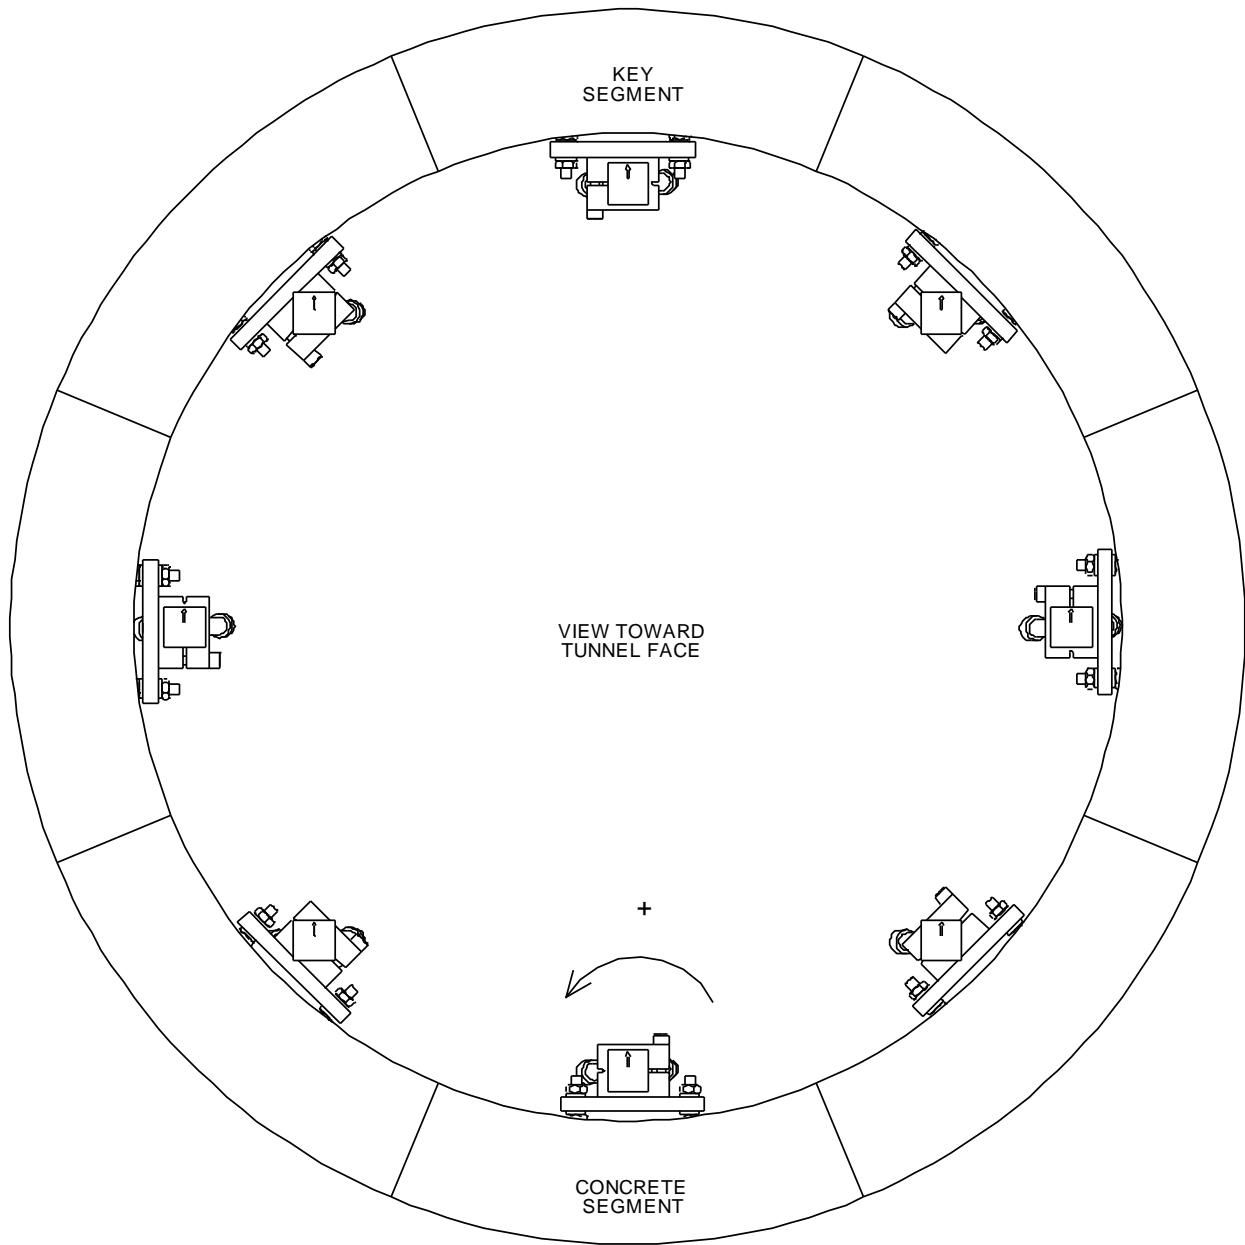

Figure 3: Tunnel Convergence Meter installed on concrete segments in tunnel
12. Repeat steps 1-11 until all Tunnel Convergence Meters are installed (see figure 3).